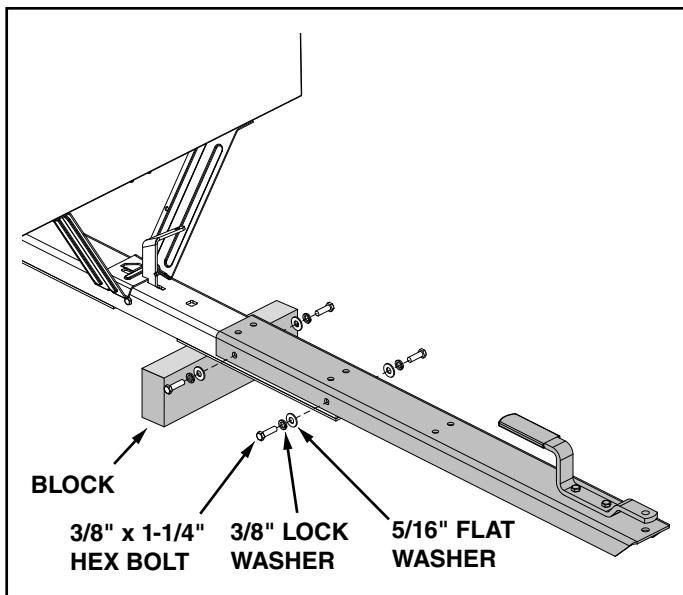

FIGURE 5
8. Assemble the front tongue on top of the rear tongue using four 3/8" x 3-1/4" hex bolts, 3/8" lock washers and 5/16" flat washers. See figure 5.